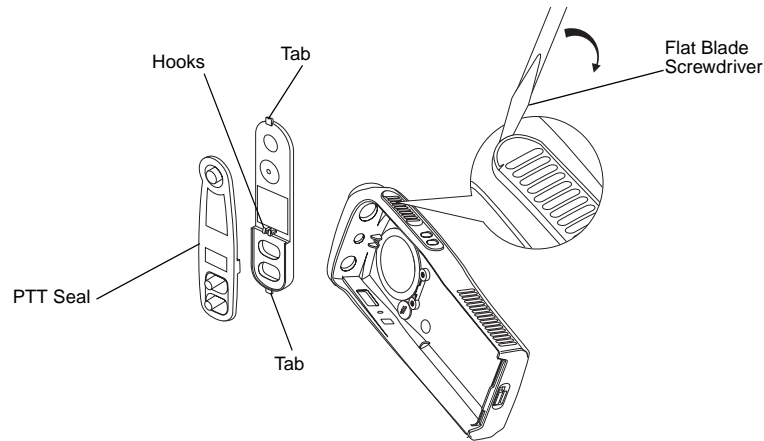

Figure 2-6. PTT Removal
1. If required, the PTT (Figure 2-6) can be disassembled using a small screwdriver, as follows: